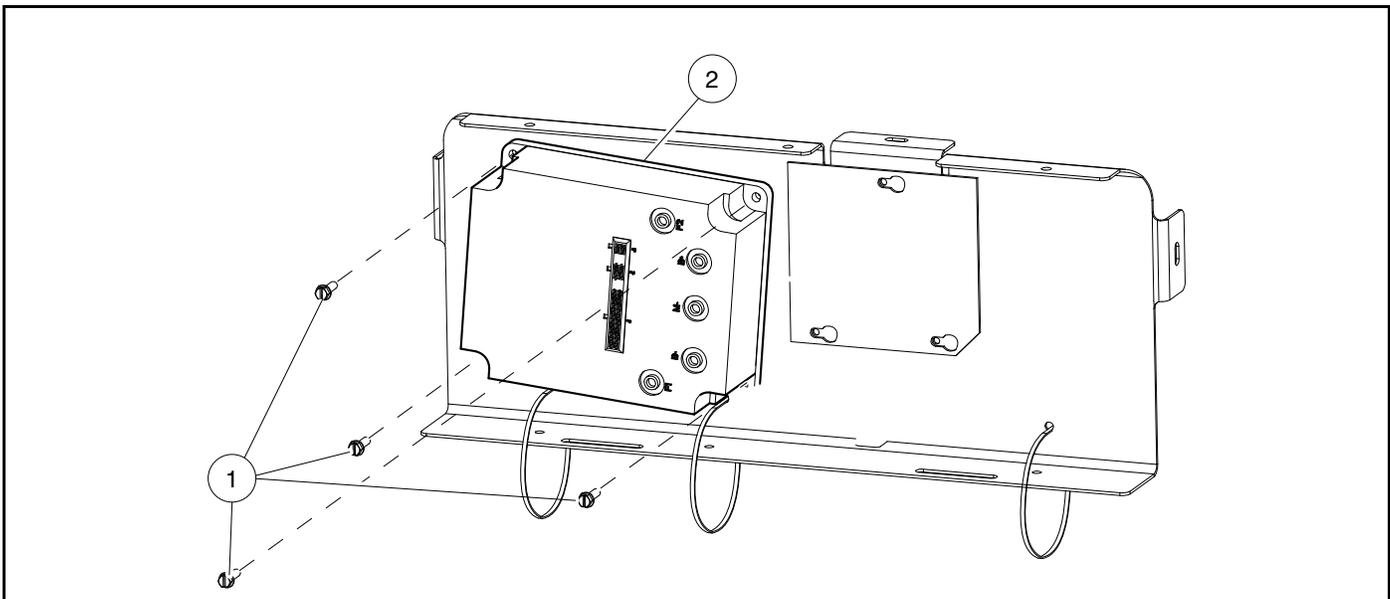

Figure 24-9 Speed Controller
1. Install the four bolts (1) that hold the speed controller (2) to the component mounting plate and tighten to 60 in-lb (6.8 N·m) (**Figure 24-9, Page 24-12**).
2. Using the wiring diagram, install the multi-pin connectors and all wires as illustrated. **See Wiring Diagrams, Section 22, Page 22-2.** Tighten bolts (3) to 9 ft-lb (12.2 N·m) (**Figure 24-9, Page 24-12**).